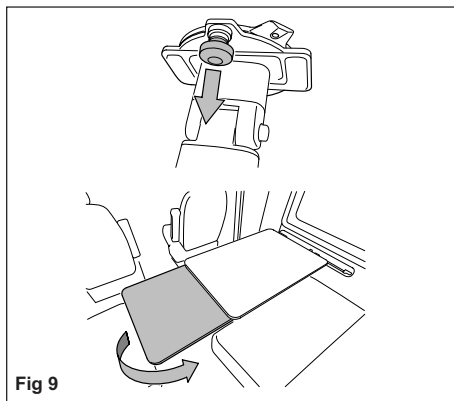

Fig 9
- The swing out leaf is released by pulling down the knob underneath the table and rotating to the desired position (Fig 9).